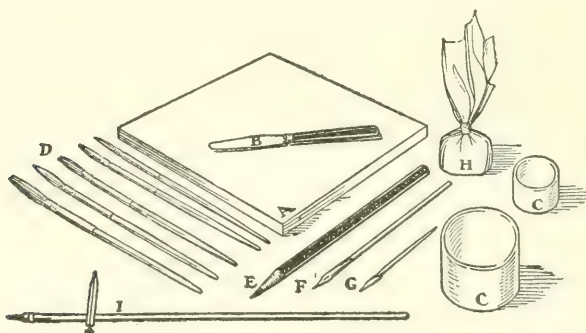

FIG. 252. — Some of the Equipment Required for China Painting
The Equipment Necessary for Painting. Figure 252 shows illustrations of some of the articles. Make a copy of the following lists, and take them to the nearest art store:
- 1 8-inch by 8-inch glazed white tile to mix paints on (*A*, Fig. 252)
- Cotton-Batting out of which to make Pads like *H*, Fig. 252
Using the Brass Gauge (I, Fig. 252), make a line around the plate $\frac{1}{4}$ inch from the edge, then another
Pat the Tint quickly and gently, with the Pad or *Pounce* (H, Fig. 252). This pad is made of a small wad of cotton covered with a piece of china silk; it must be soft, not a hard tight wad, and the silk must be free from wrinkles.
Wiping. When the tint has been patted evenly, take a toothpick with a piece of cotton twisted about its point (G, Fig. 252), and with the point of this wipe out every bit of color that has been run over on to the flowers and beyond the top and bottom lines; also clean up all ragged edges of the gold lines that you may see.